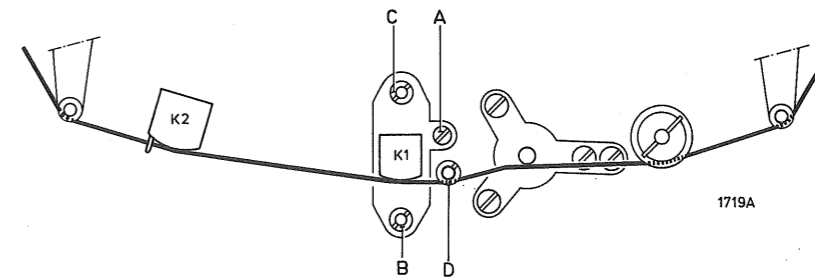

Fig. 13
1. Adjusting the recording/playback head (see Fig. 13).
- Place the alignment gauge into the recorder as indicated in Fig. 13.